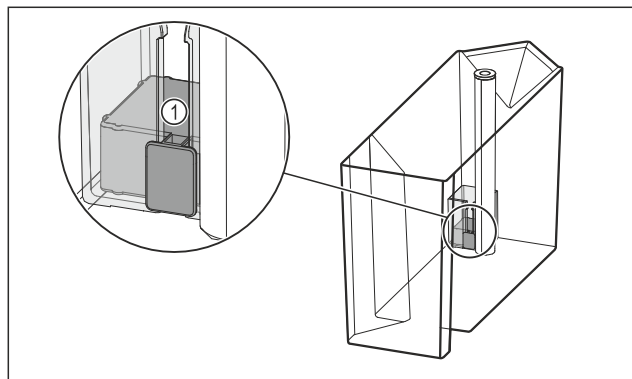

Fig. 115
- ▶ Check whether the float Fig. 115 (1) is jammed.